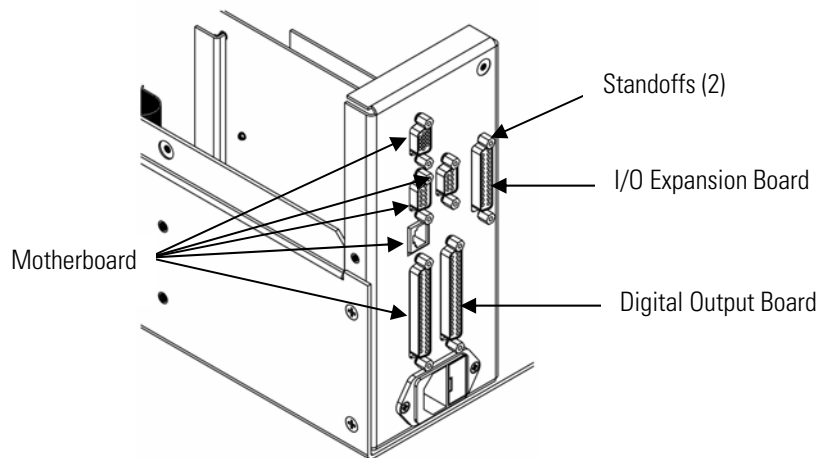

Figure 7-17. Rear Panel Board Connectors
3. Remove the two standoffs holding the I/O expansion board connector to the rear panel (Figure 7-17).
4. Using the nut driver, remove the two standoffs securing the board to the rear panel (Figure 7-17).